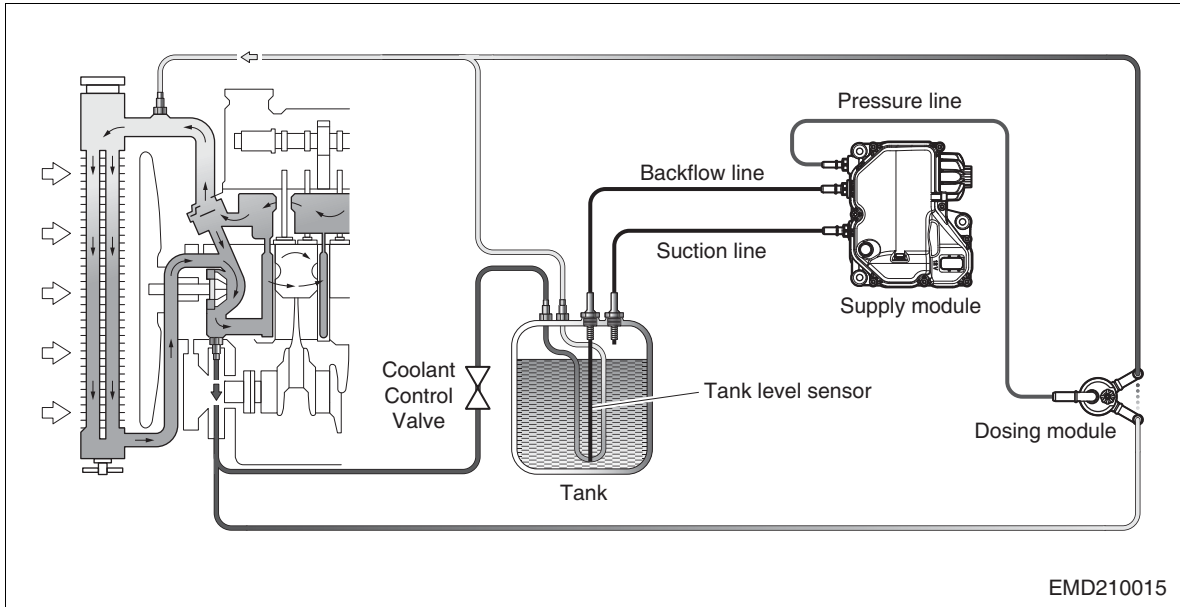

Fig. 10 The system diagram of Urea Tank heating & Dosing Module cooling
- The system design for the DEF tank heating and the cooling of the DEF injection module (dosing module) in the SCR system is shown in Fig. 10. (Black: DEF hose)